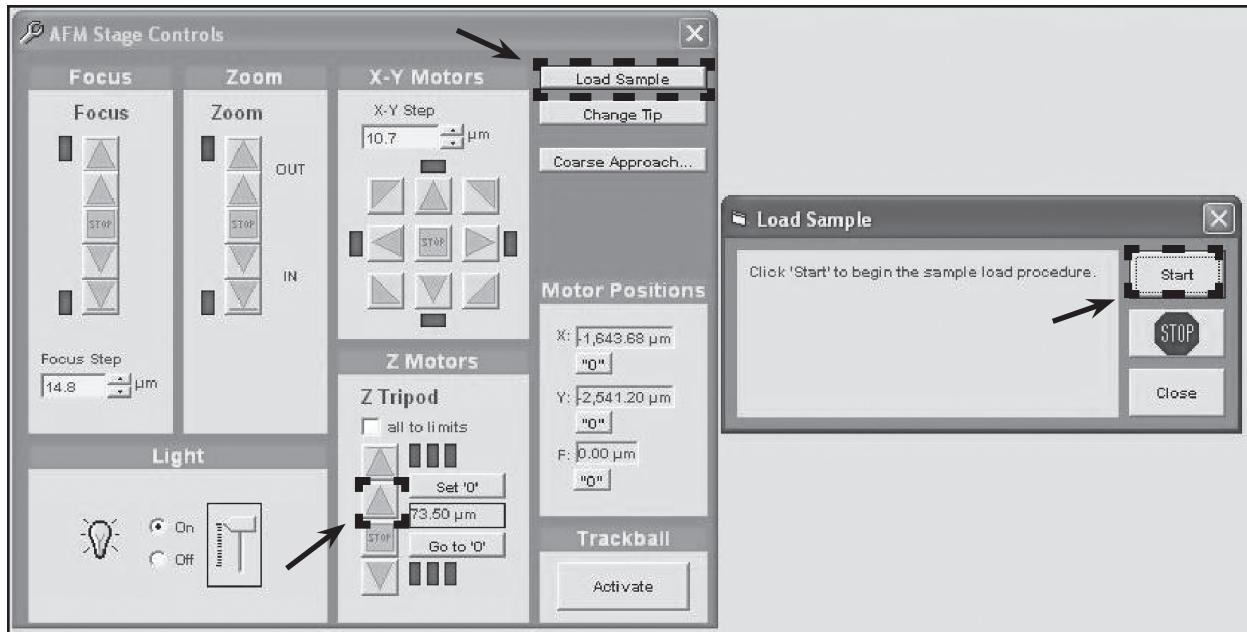

Figure 3.19: To raise the probe tip away from the sample, click Load Sample button and Start.
3. Click the Up button (Figure 3.19) to raise the Z motors until there are at least a few millimeters of clearance between the probe and the sample surface (or puck if no sample is loaded).
4. Click the Load Sample button and then the Start button (see Figure 3.19). The motorized X-Y stage will move the puck fully forward.